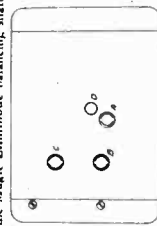

Fig. 8
- Insert the volume control shaft in hole (A) figure (8) in the center of the left end of the receiver by placing the torque of the flexible shaft into the slot in the volume control shaft, then insert the housing bushing. Insert the tuning control shaft in hole C figure 8 on the left end of the receiver. The shaft fittings are of the self-locking type and may be rigidly secured by turning each approximately 1/4 turn to the right. Tighten finger tight only. Do not use wrench or pliers.
- Insert the plugs on the speaker wires, dial light wire, and tone control wire into their proper receptacles, figure (5) located at the rear right end of the receiver.
- Yellow wire into 3rd receptacle marked (S) "Speaker Field".